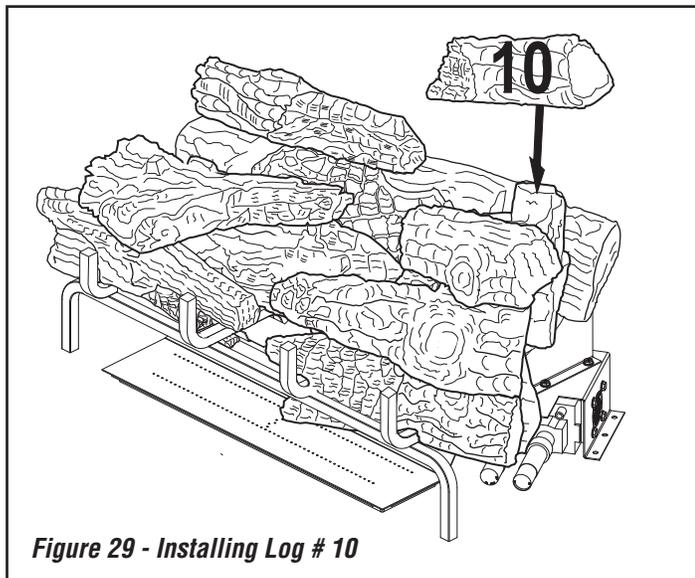

Figure 29 - Installing Log # 10
10. Place the right rear top log (#10) on top of the right rear chunk log (#7) as shown in **Figure 29**. Match the rectangular peg on the top of the right rear chunk log (#7) with the rectangular hole on the bottom of the right rear top log (#10).